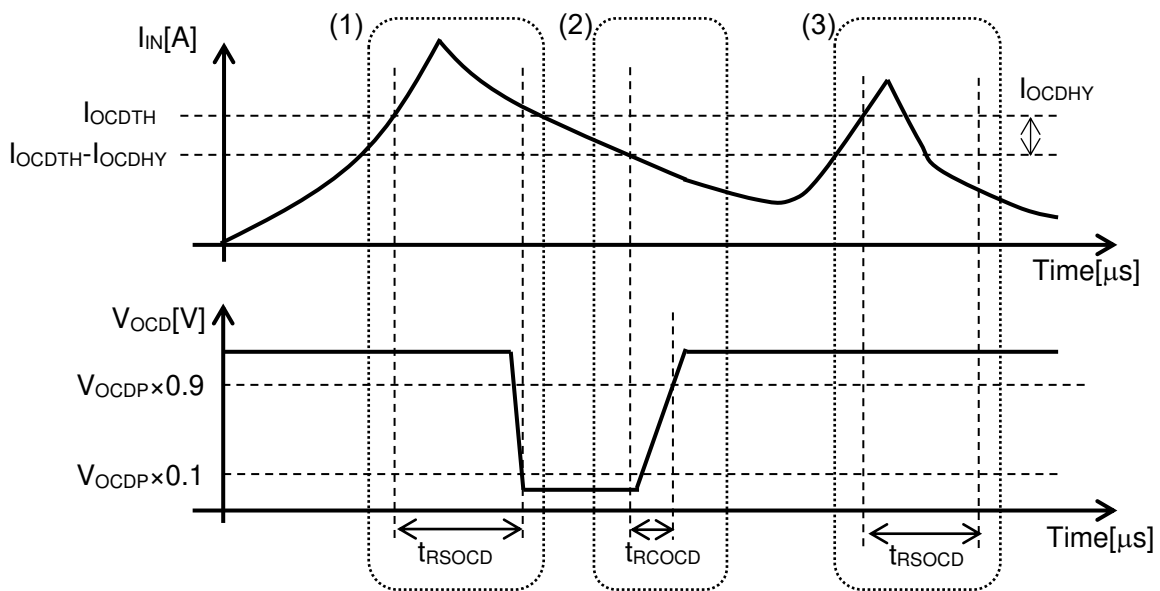

Figure 6. Overcurrent Detection Function of CZ-3A06
10.4. Overcurrent Detection Function is operated as below. (See figure 6.)